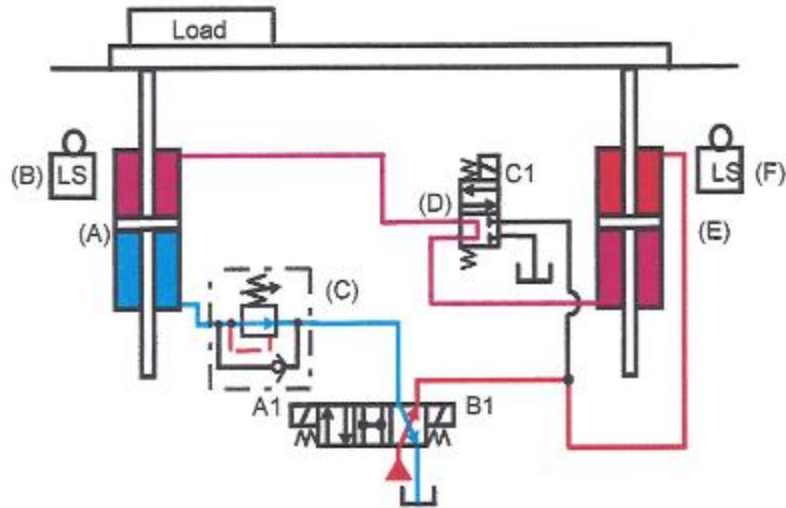

Figure 22-9. Synchronizing circuit with double-rod end cylinders in series flow. Solenoid B1 energized, cylinder retracting.
To retract the cylinders, energize solenoid B1 of the main directional valve as in Figure 22-9. This sends oil to the retract side of cylinder (E). Oil from the opposite end of cylinder (E) flows through leveling valve (D) to the top of cylinder (A). Oil from the opposite end of cylinder (A) flows to tank through the counterbalance valve and main directional valve.